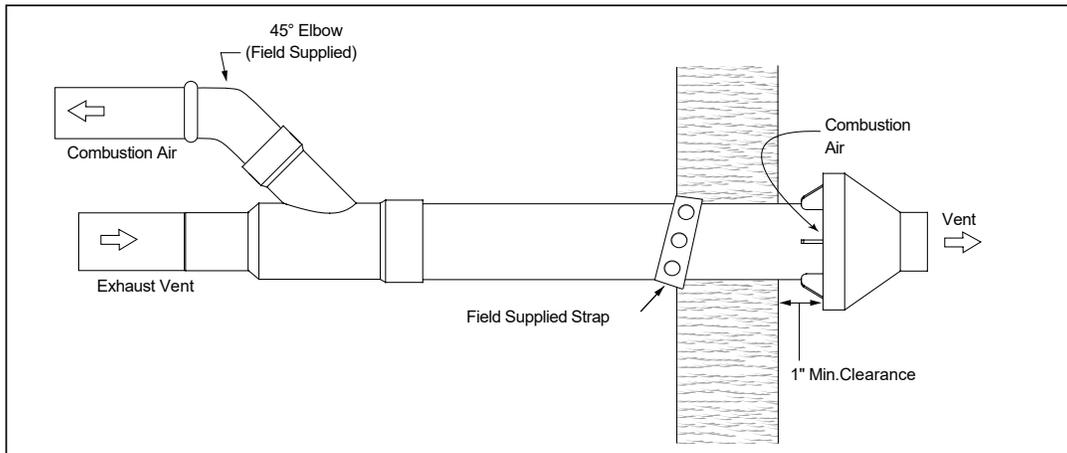

Fig.7-15 Side Wall Installation
- Install cemented Y concentric fitting and pipe assembly through structure's hole (Fig.7-15). NOTE: Do not allow insulation or other materials to accumulate inside pipe assembly when installing through hole.
5. Secure the assembly to the structure as shown in Fig.7-15 using field supplied metal strapping or equivalent support material.
NOTE: Ensure termination location clearance as shown in Fig.7-15.